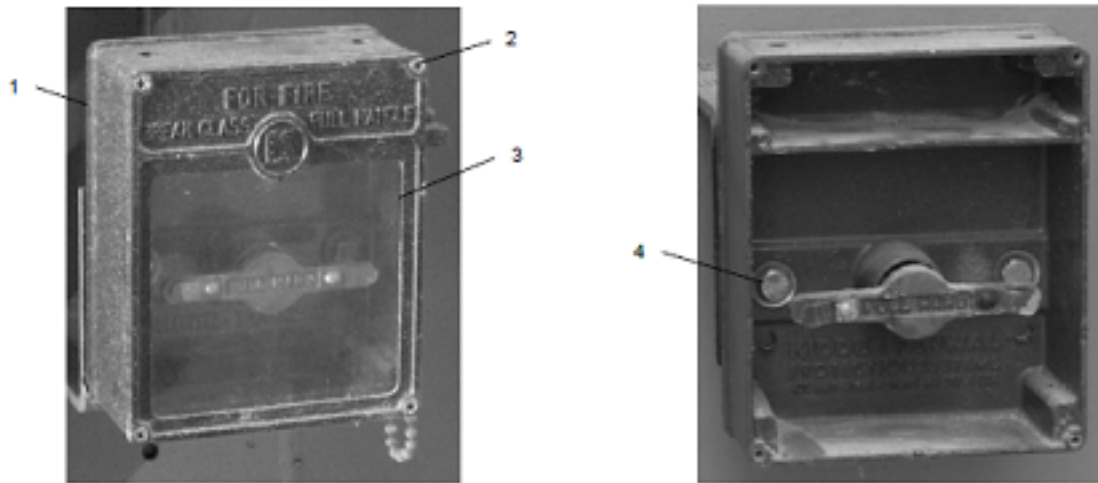

Figure 551-88L-2047\_12
(b) Disconnect all cylinder control heads (refer to item 1 of Figure 551-88L-2047\_11), discharge hoses (refer to item 2 of Figure 551-88L-2047\_11), and flexible pilot hoses (refer to item 3 of Figure 551-88L-2047\_11) IAW vessels FM-200 Fire Fighting System technical manual.